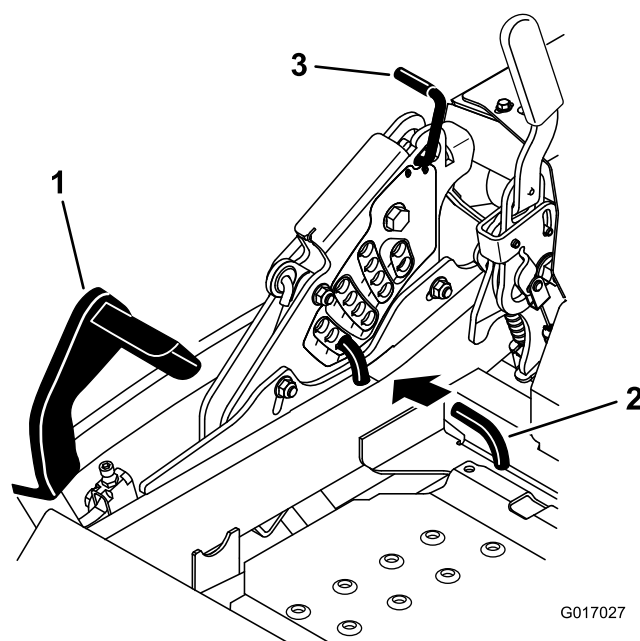

Figure 26
2. Push on the deck lift pedal with your foot and raise the mower deck to the transport position 140 mm (5-1/2 inches) cutting height position (Figure 26).
3. To adjust, rotate the pin 90 degrees and remove the pin from the height-of-cut bracket (Figure 26).
4. Select a hole in the height-of-cut bracket corresponding to the height-of-cut desired and, insert the pin (Figure 26).